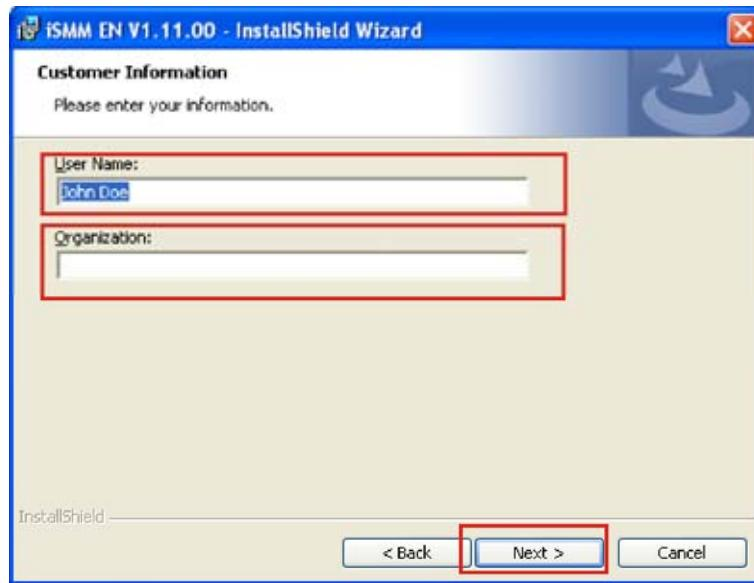

Figure 7-33: iSMM Customer Information
Step 75: The Customer Information screen appears.(Figure 7-33)
Step 76: Fill in the “User Name” and “Organization” fields, which will be automatically filled with the settings for the current user.(Figure 7-33)
Step 77: Click **Next** to continue.(Figure 7-33)